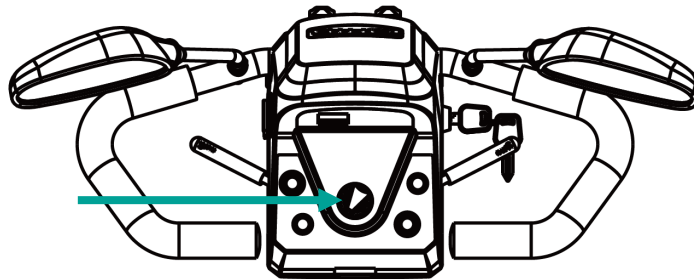

Figure 7.2
7.3.1 Speed dial allows you to set various forward and reverse speeds. (See Figure 7.2) Turn the dial counter-clockwise to slow for very gentle operation. Turn it clockwise to increase your speed to maximum.